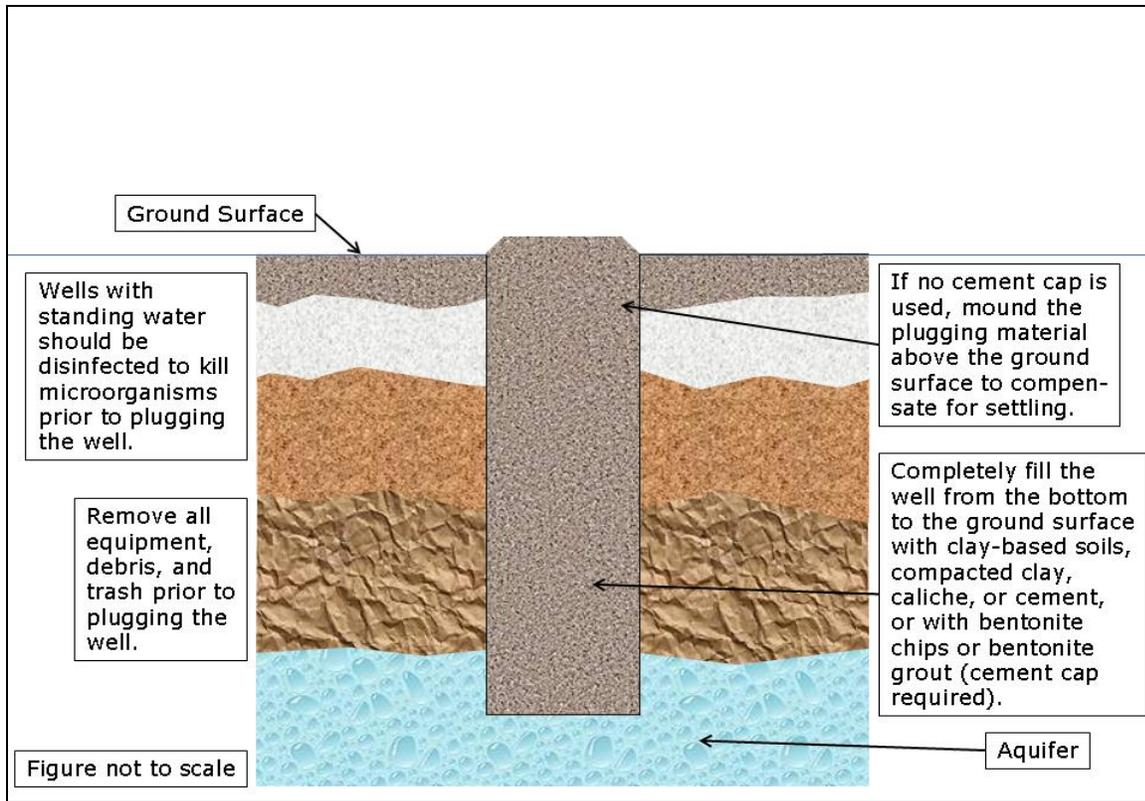
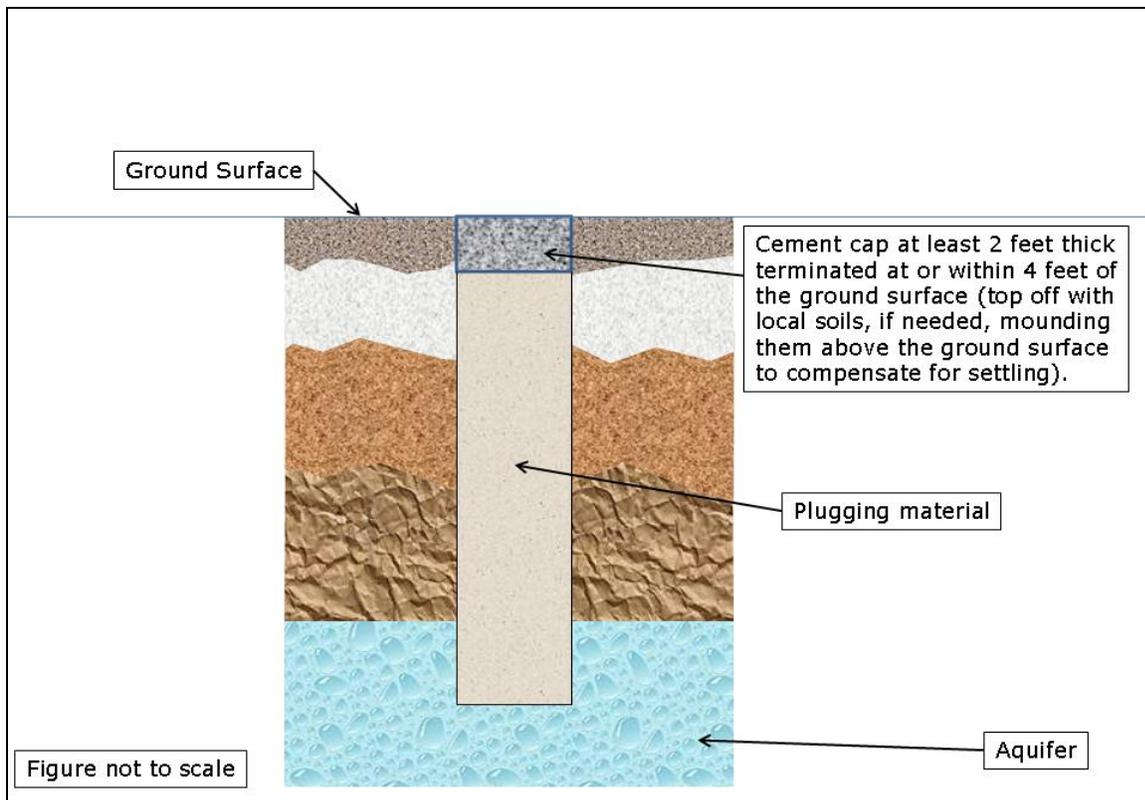

Figure 1. Plugged Large-Diameter Well
Figure 2. Plugged Well Using Bentonite Chips or Bentonite Grout
Completely fill the well from the bottom to the ground surface with clay-based soils, compacted clay, caliche, or cement (see Figure 1), or with bentonite chips or bentonite grout (cement cap required; see Figure 2).
- If bentonite chips or bentonite grout are used, the plug must be capped with cement at least 2 feet thick. The cement cap acts as an atmospheric barrier (see Figure 2) and can be positioned in two ways:
- If bentonite chips or bentonite grout are used, the plug must be capped with cement at least 2 feet thick. The cement cap acts as an atmospheric barrier (see Figure 2), and can be positioned in two ways:
- If bentonite grout is used, the plug must be capped with cement at least 2 feet thick. The cement cap acts as an atmospheric barrier (see Figure 2), and can be positioned in two ways: